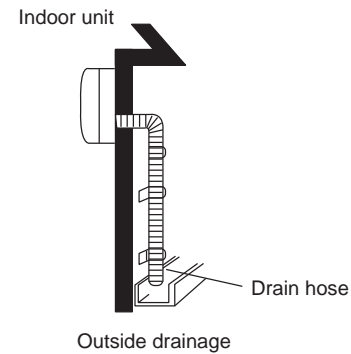

Fig. 1a
- select a location where tubing and drain hose have the shortest run to the outside. (Fig 1a)